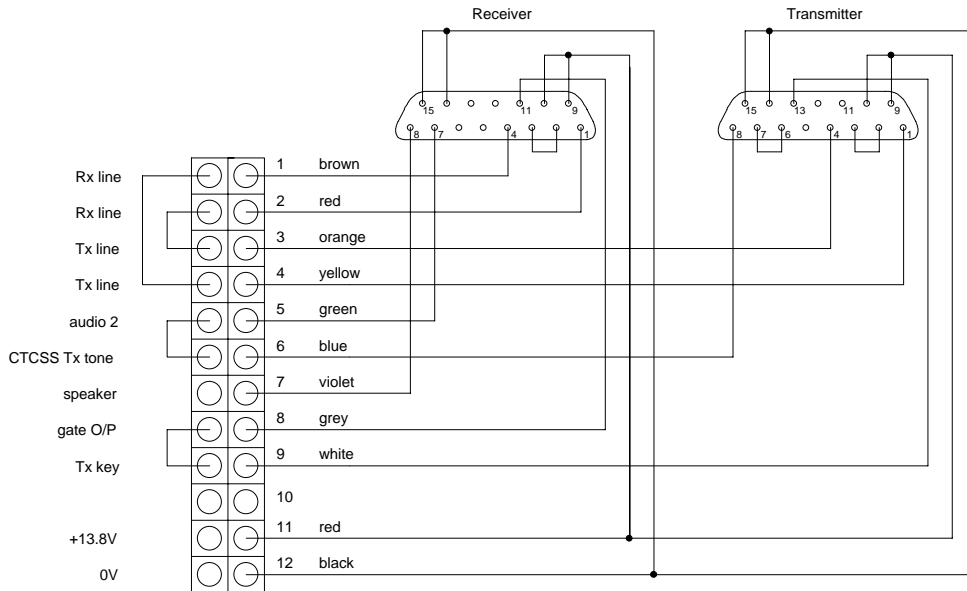

Figure 2 T800-60 Loom Wiring Details
10. Connect the wiring loom to the connector blocks on the rear of the options tray or power supply as shown in Figure 2.